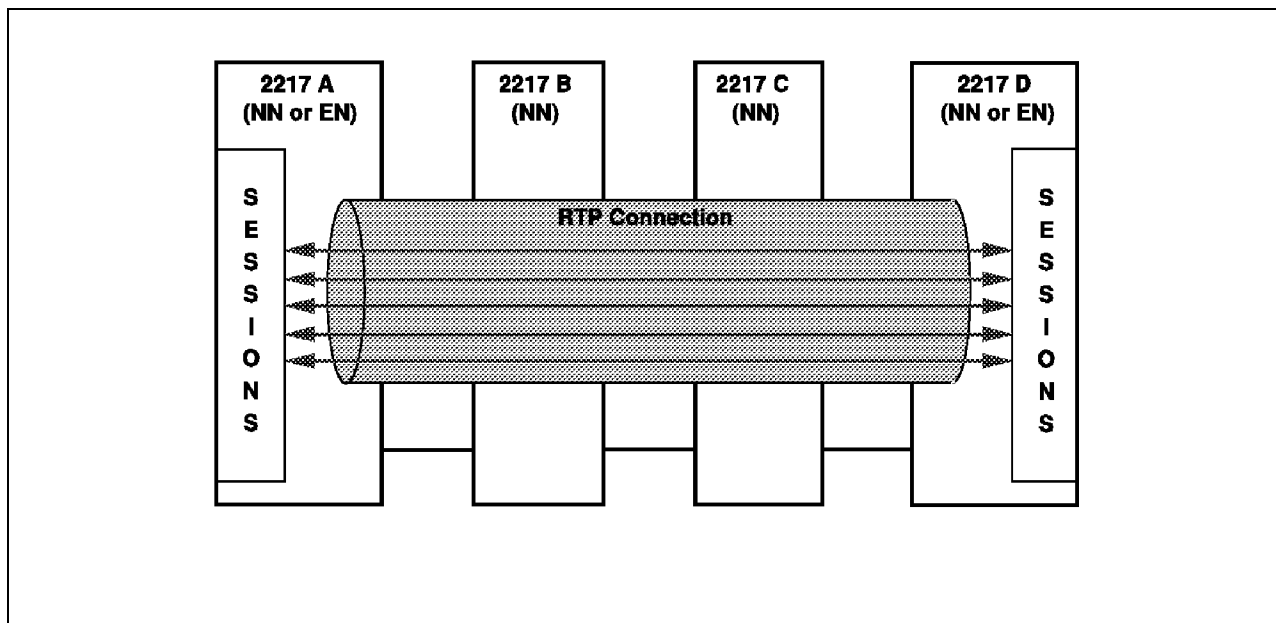

Figure 9. HPR RTP Connections in IBM 2217 MpC (NN or EN)
**Rapid Transport Protocol (RTP)** HPR establishes an RTP transport connection between the origin and destination nodes. Intermediate nodes are not aware of the sessions. RTP operates in the nodes that initiate and terminate the HPR connection (see Figure 9 on page 29). RTP provides the following functionality:
**HPR Base Node Option** The primary function of an HPR base node is to provide ANR routing. Products solely implementing the base functionality can act purely as intermediate nodes within an HPR network. Hence, an end node cannot utilize the base options in isolation. See NNB in Figure 9 for the protocol layers active in an intermediate node. The HPR base functions are as follows: